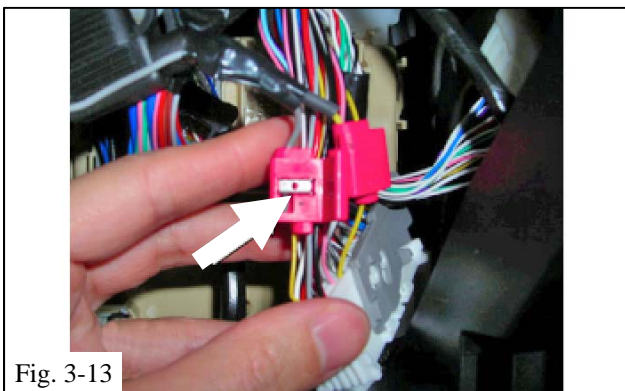

Fig. 3-13
- (q) Insert the grey wire from the interior light wire harness so that it appears in the inspection window (Fig. 3-13).